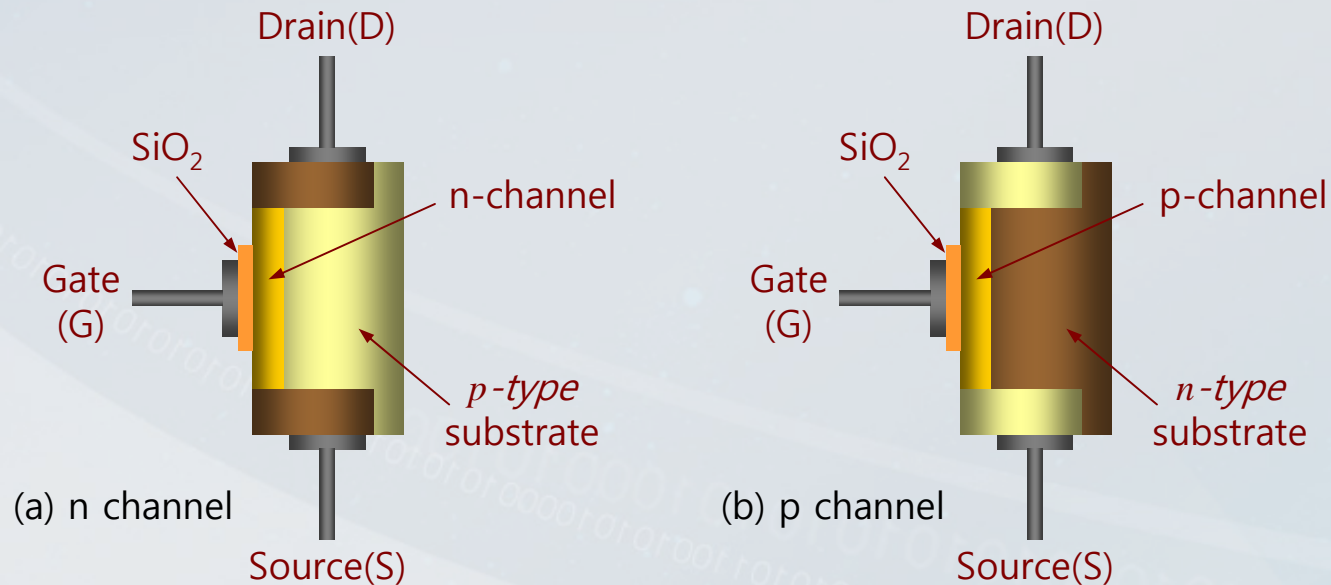

Figure 1-38. Representation of the basic structure of D-MOSFET.
- One type of MOSFET is the depletion MOSFET(D-MOSFET) and Figure 1-38 illustrates its basic structure.